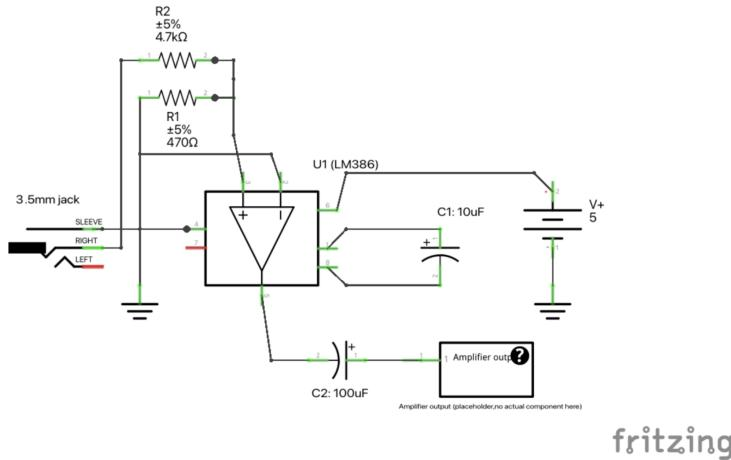

Figure 2: Schematic for amplification stage of analog spectrum analyzer
1. Construct the amplification stage using electrolytic capacitors according to the schematic in Fig. 2 and the wiring diagram in 3 (see next page).